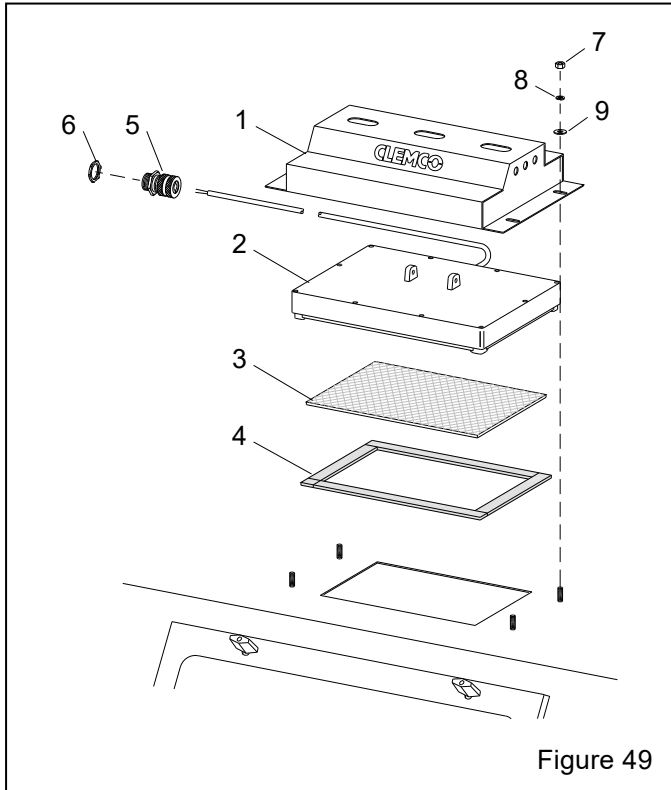

Figure 49
9.4 LED Light Assembly – Figure 49